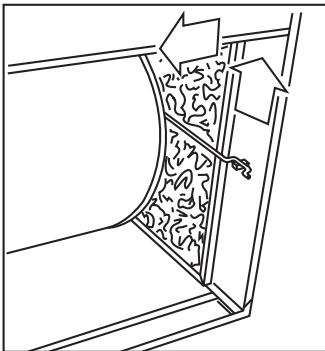

Fig. 25 - Removing Filter Retainer from Latch
- (1.) Remove filter retainer from latch. (See Fig. 25.)